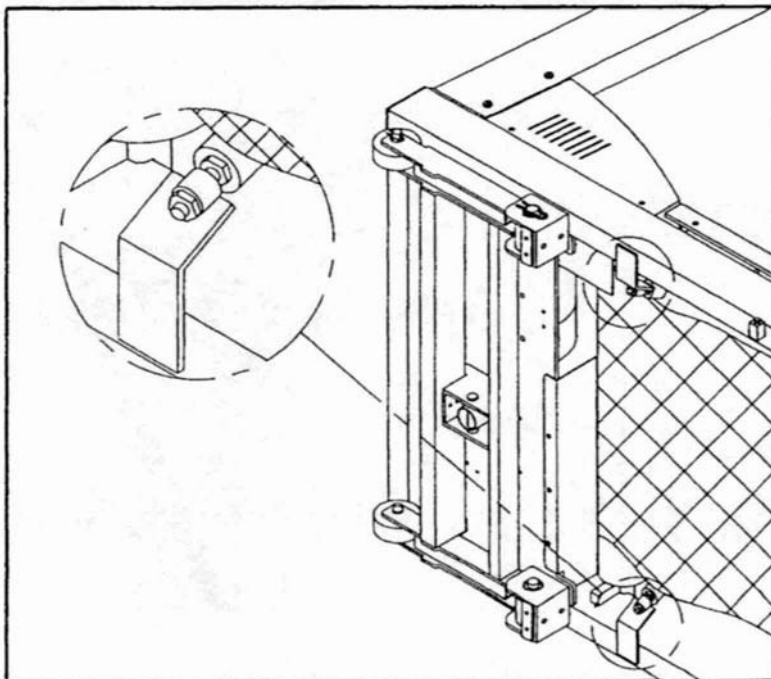

Fig.9
4. Adjust running belt inside the belt alignment roller.(see Fig.9)